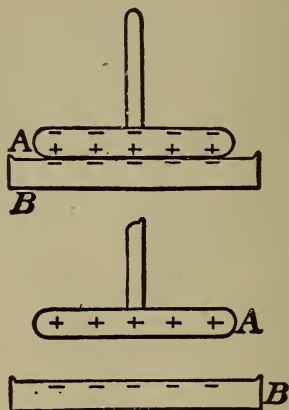

Fig. 10. The Electrical State of an Electrophorus when cover is on, and then after being touched and cover lifted.
*Answer.* When the resinous cake is first beaten its surface is —ly electrified and the + driven into the metal pan. See Fig. 10. When the metal cover is placed lightly on the cake it does not touch at all points and is really an insulated conductor.